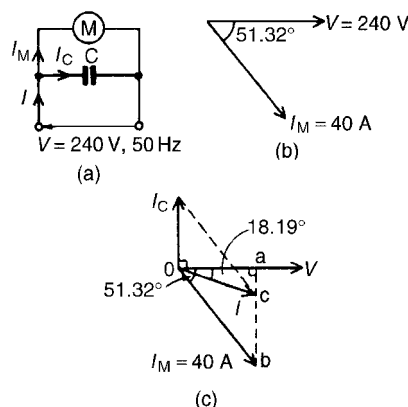

Figure 16.13
The circuit diagram is shown in Fig. 16.13(a). The phase angle between I_M and V is given by: $\phi = \cos^{-1} 0.625 = 51.32^\circ$, hence the phasor diagram is as shown in Fig. 16.16(b).
- (b) When a capacitor C is connected in parallel with the motor a current I_C flows which leads V by 90° . The phasor sum of I_M and I_C gives the supply current I , and has to be such as to change the circuit power factor to 0.95 lagging, i.e. a phase angle of $\cos^{-1} 0.95$ or 18.19° lagging, as shown in Fig. 16.13(c). The horizontal component of I_M (shown as oa)